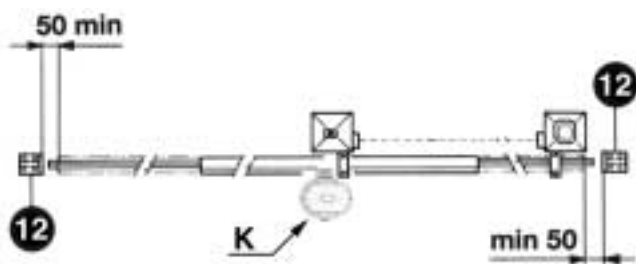

Fig. 2
- Besides the electrical or mechanical limit switches available on the operators, there must be, on both ends of the installation, a fixed mechanical stopper which stop the gate in the unlikely event of ill functioning of limit switches on the operators. For this reason the fixed mechanical stopper must be of an adequate size to withstand the static and kinetic forces generated by the gate (Fig.2 - point 12).